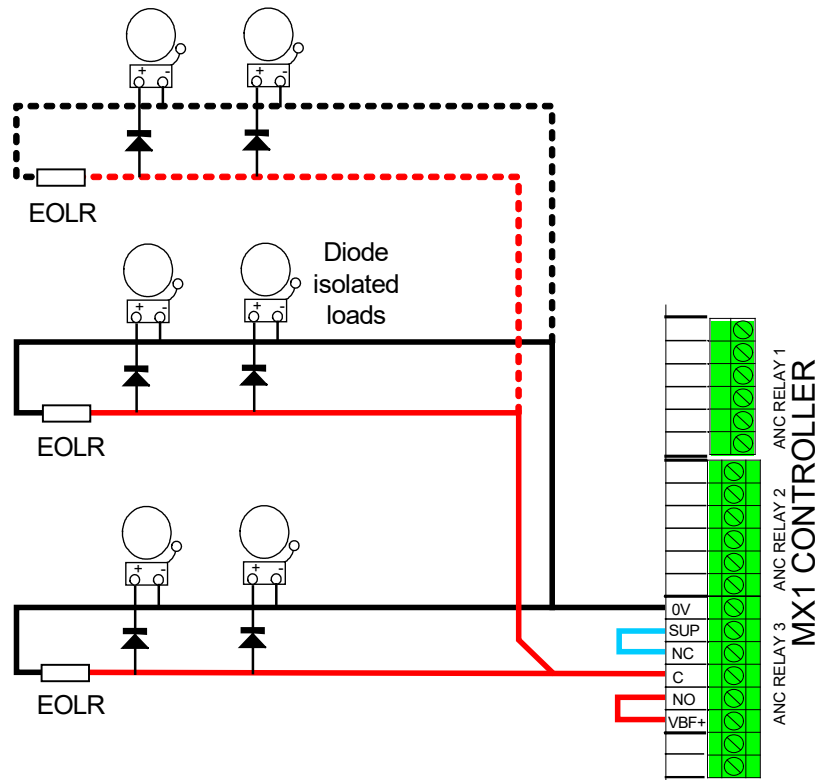

Figure 8.6 – Bells or other DC Sounder Wiring Details
24V powered VADs, sounders, bells, and strobe lights can be controlled from the Ancillary Relay 3 output, if multiple branches or supervision are required. Loads of up to 5A can be controlled in this way, but note that the VBF+ outputs from the *MX1* Controller are fused at 3A. If supervision is required, then each device must have a series diode connected or incorporated as shown in Figure 8.6. A suitable diode for a load up to 1A is 1N4004 or 1N5404. Inductive loads such as bells must have suppression capacitors or diodes fitted.
The Solista VADs and sounders include a series diode, so there is no external diode needed as shown in the Figure 8.6. Wire the *MX1* C output to the +ve terminal of the VADs/sounders and the 0V terminal to the -ve terminal on the VADs and the -V(1) terminals on the sounders. Use the In and Out pairs on the VADs/Sounders so that disconnecting one wire breaks the circuit and generates a defect. Fit the EOL resistor across the Out terminals of the last VAD/Sounder on the branch.